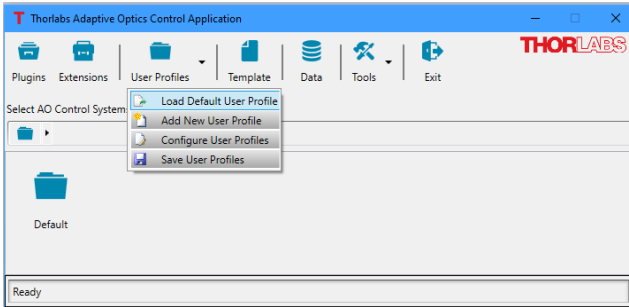

Figure 2 Load Default User Profile
2. Start the ThorAOControlApp application. From the Main window, click **User Profiles->Load Default User Profile** button. A user profile titled Default appears on the Main window. See Figure 2.